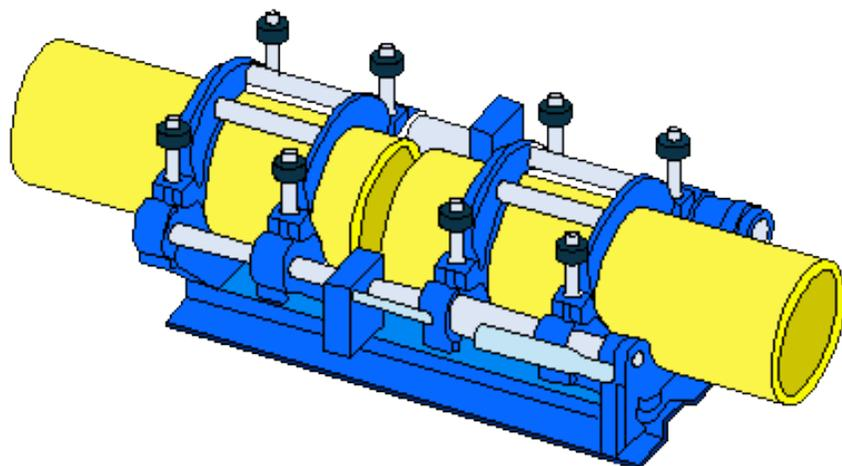

Figure E1 – Butt Fusion Machine
19. Clamp the pipe in place. Figure E1